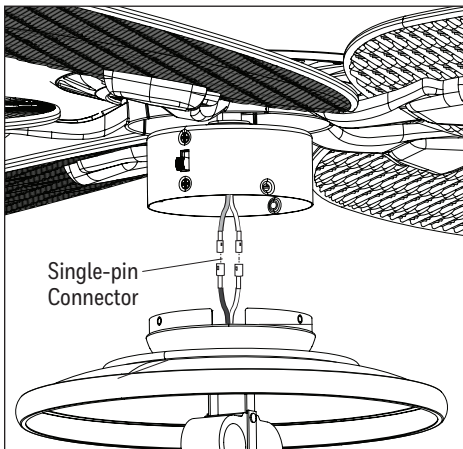

Figure 5.7
- Connect the single-pin connectors from the fan to the light kit -- blue to black and white to white (Figure 5.7). **Note:** Align the notch in the switch housing cap with the reverse switch on the switch housing.